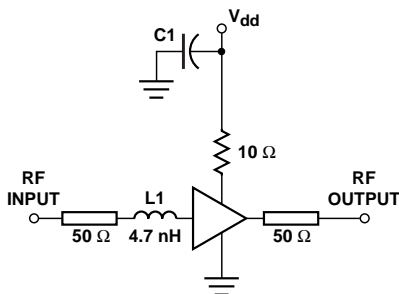

Figure 10. Test Circuit for 2 GHz.
3. Guaranteed specifications are 100% tested in the circuit in Figure 10 in the Applications Information section.
The circuit shown in Figure 10 is used for 100% RF testing of Noise Figure and Gain. The input of this circuit is fixed tuned for a conjugate power match (maximum power transfer, or, minimum Input VSWR) at 2 GHz. Tests in this circuit are used to guarantee the NF_{test} and G_{test} parameters shown in the Electrical Specifications table.
The test circuit in Figure 10 illustrates a suitable method for bringing bias into the MGA-87563. The bias connection must be designed so that it adequately bypasses the V_{dd} terminal while not inadvertently creating any resonances at frequencies where the MGA-87563 has gain.
The input of the MGA-87563 is partially matched internally to 50 Ω . The use of a simple input conjugate matching circuit (such as shown in Figure 10 for 2 GHz), will lower the noise figure considerably. A significant advantage of the MGA-87563’s design is that the impedance match for NF_0 (minimum noise figure) is very close to a conjugate power match. This means that a very low noise figure can be realized simultaneously with a low input VSWR. The typical difference